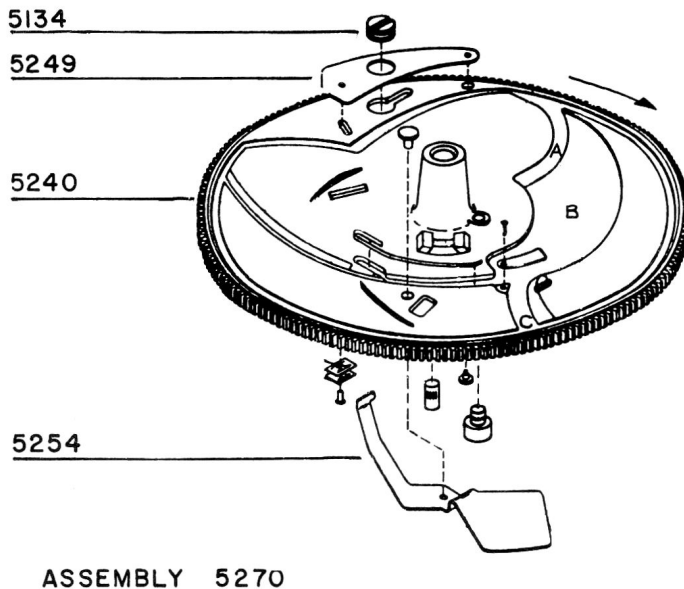
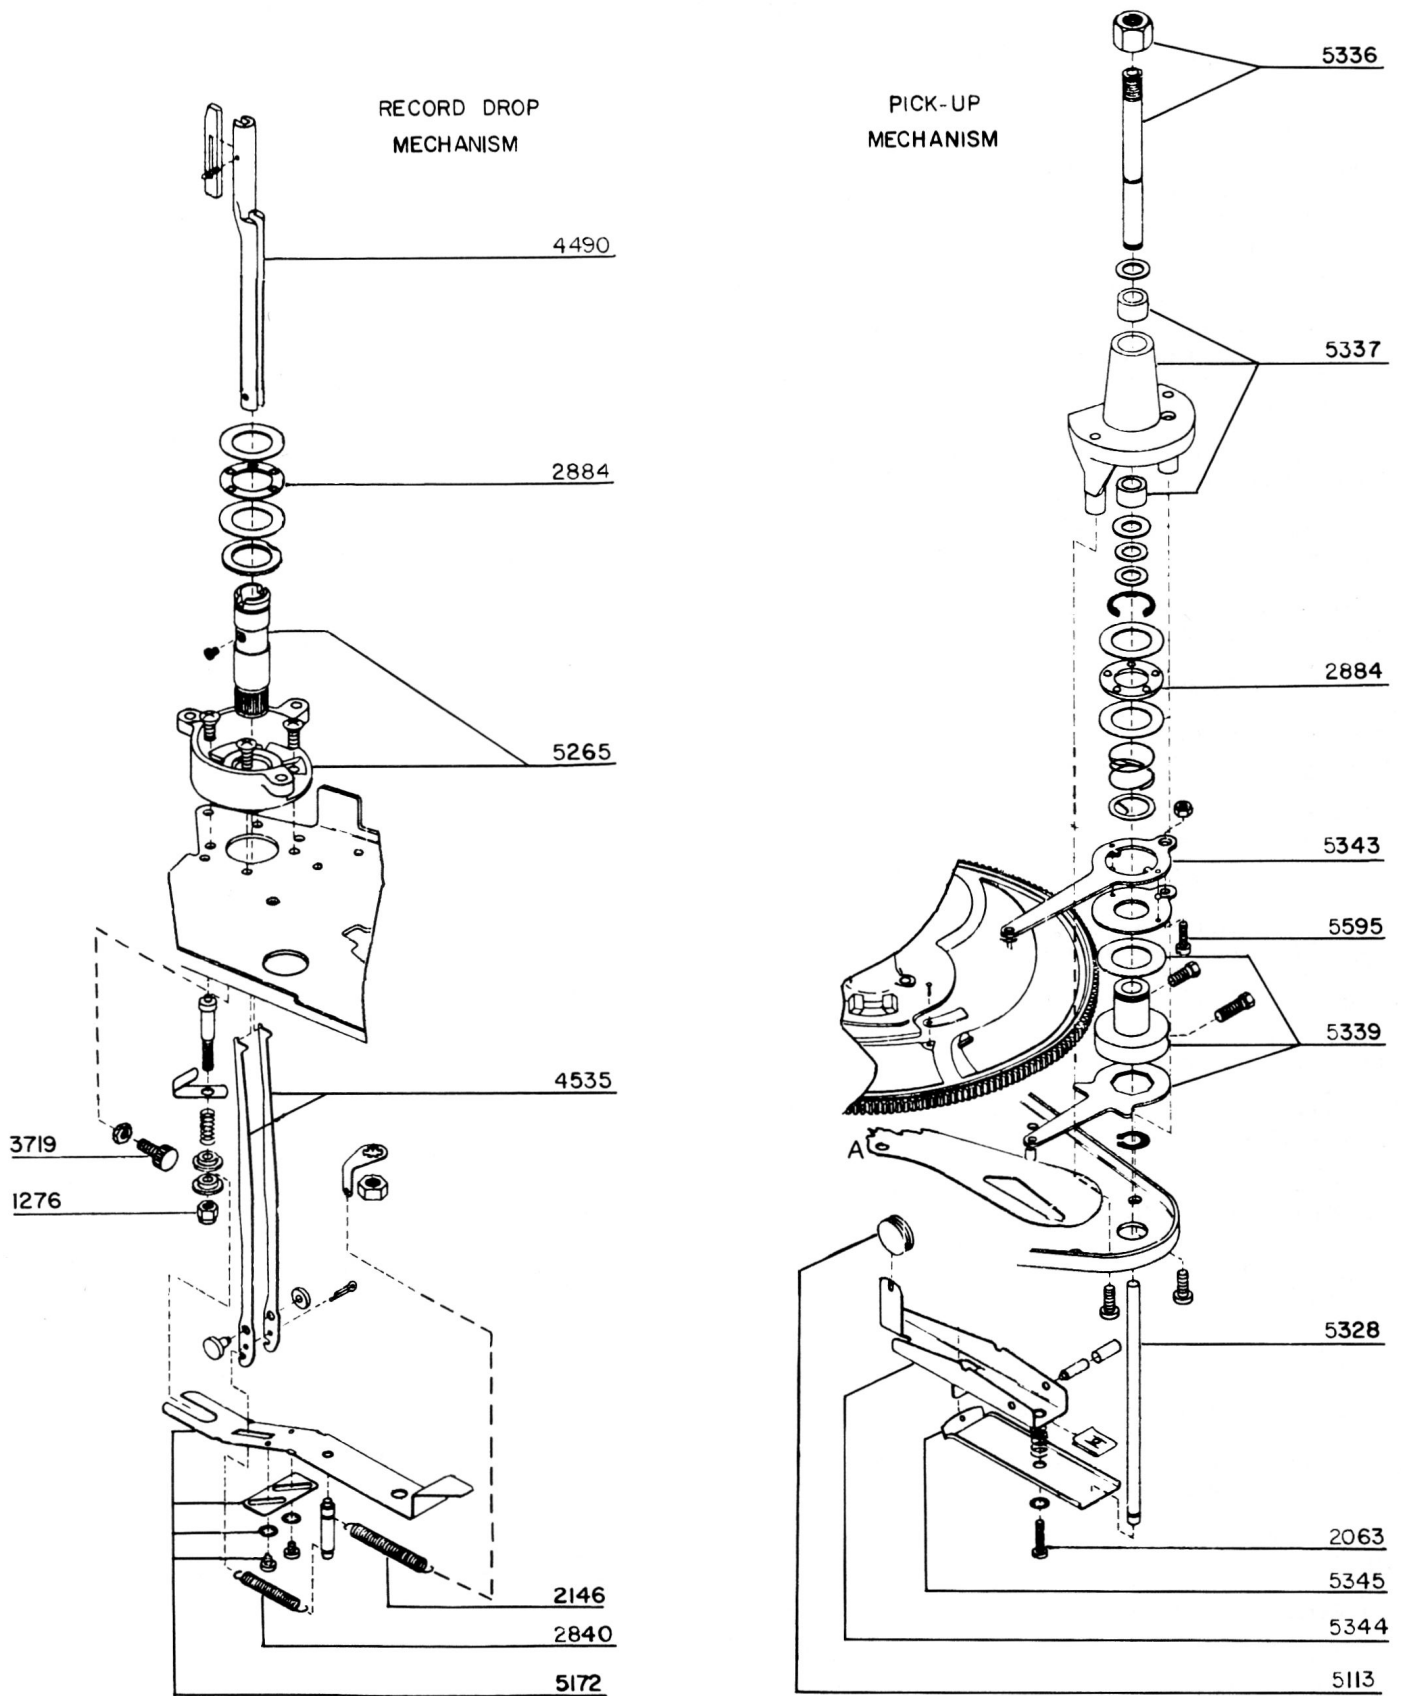

FIGURE 2 CAM GEAR ASSEMBLY
FIGURE 4
the cam gear (Ref 5270 Fig. 2) is in the playing position, there should be between .01 and .025" clearance between contact strips. This can be adjusted by slight bending of either contact.
- (b) Make sure that the cam following pin is not fouling the bottom of the cam when in the playing recess. To adjust, turn screw 5595 Fig. 4. Do not give too much clearance or the follower pin may jump out of the cam groove when cycling. The correct setting for the pin is to touch halfway up ramps A and C and to be clear in position B (see Fig. 2).
- (c) The striker feed lever must be free on its pivot (point A Fig. 4) and should touch the sub plate at the end under
To adjust this setting turn screw 2063 Fig. 4 clockwise to increase the height to which the pick-up rises. In counter-balanced arms a fine adjustment is provided through a hole in the top of the pick-up arm. When adjusting by the latter method ensure that depth of drop is sufficient, and that a single record can be played.
Adjustment of the mechanism should not normally be necessary unless the machine has been dismantled. To check the adjustment, operate the start control, and turn the cam gear in the direction of the arrow (see Fig. 2) until the large diameter post on the cam gear pushes the dropping bar (Ref 5172 Fig. 4) to its extreme position. The record selector pawl (Ref. 4535 Fig. 4) should rise nearly to the top of the slot above the step on the spindle, and the pushing tip of the pawl should protrude slightly beyond the outer edge of the shelf.
A) Set diagonally slotted plate (Ref. 5172 Fig. 4) half way up its slot and lightly tighten the screws. By means of the cam, make sure the dropping slide is pushed forward to its fullest extent and adjust the pawl upwards by means of the self locking nut (Ref. 1276 Fig. 4) until a clearance of .015" is obtained between the pushing top of the pawl and the slot above the spindle step. Adjust the diagonally slotted plate until it can be pushed forward no further. Adjust stop (Ref. 3719 Fig. 4) to give .015" clearance between it and the bottom end of the pawl, and tighten the lock nut.
B) To remove the spindle and turntable spigot (Ref. 5624 Fig. 4) remove four socket head screws and lift the assembly clear of the dropping pawl. To replace, reverse this procedure. Adjust as in paragraph A.
C) To remove the record dropping pawl assembly (Ref. 4535 Fig. 4) unclip the spring (Ref. 2840) and remove the split pin from the pawl. Remove the spindle and spigot as in paragraph B and lift the pawl assembly clear. To replace reverse the procedure. Adjust as in paragraph A.
- A) Thread leads through hole in base, and set swivel bracket (Ref. 1993 Fig. 7) over hexagon headed swivel (Ref. 5336 Fig. 4).
- C) Check that pickup will sit on its rest and also travel to within 1" of record dropping spindle. To adjust this position, slacken the two set screws in the boss (Ref. 5339 Fig. 4), move the pick-up to its rest, and tighten the screws.
- A) Lift pick-up positioning lever (Ref. 5343 Fig. 4) and turn clear of cam gear.
- A) Push record dropping slide (Ref. 5172 Fig. 4) towards record spindle.
- B) Place cam gear on spindle and turn until locating roller (Ref. 5113 Fig. 4) fits into slot in cam.